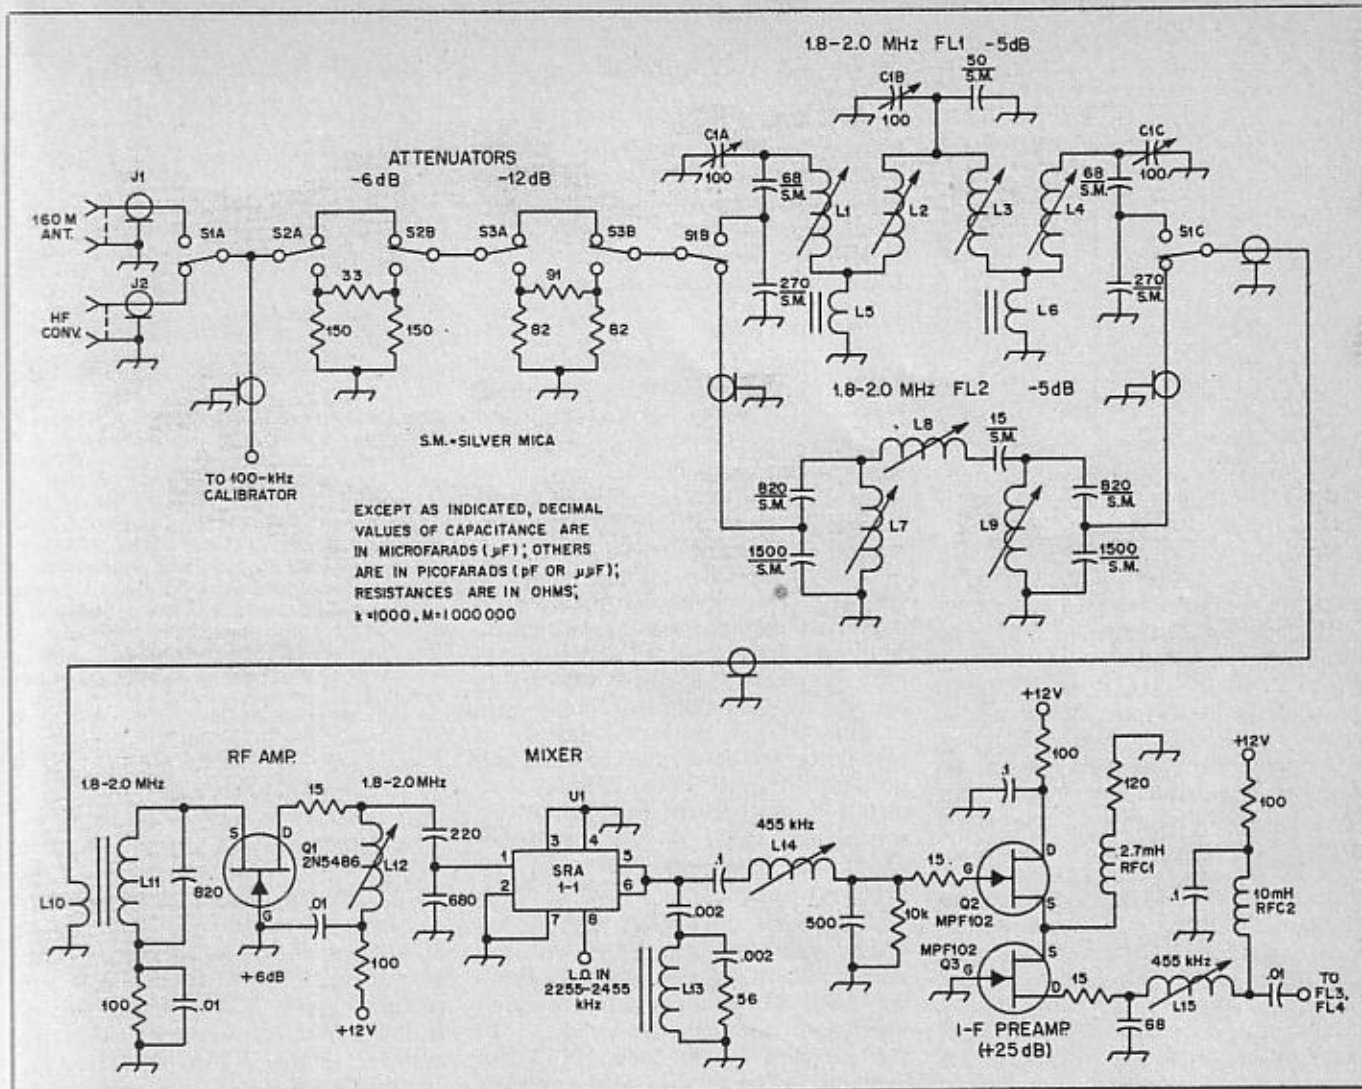

Fig. 1 — Schematic diagram of the receiver front end. Fixed-value capacitors are disk ceramic unless otherwise noted. Resistors
**Dial calibration.** Calibrate the tuning dial *after* the tuning range has been set and any backlash has been ironed out. In the model shown in Fig. 1, calibration of the 10- and 18-MHz TUNING scales differs by the width of a dial marking. The left edge of each mark is used during 18-MHz tuning (18 MHz L); the right edge is used during 10-MHz reception (10 MHz R). Calibration of the full TUNING capacitor rotation (360°; 180° for each band) would make this unnecessary, but one band would tune "backward" relative to the other.
Fig. 1 shows the rf amplifier, mixer, and post-mixer amplifier. What may seem like excessive elaboration in design is a matter of personal whim, but the features are useful, nevertheless. For example, the two front-end attenuators aren't essential to good performance, but are useful in making accurate measurements (6, 12 or 18 dB) of signal levels during on-the-air experiments with other stations (antennas, amplifiers and such). Also, FL2, a fixed-tuned 1.8- to 2-MHz band pass filter, need not be included if the operator is willing to re-peak the three-pole tracking filter (FL1) when tuning about in the band. The fixed-tuned filter is my preference when the down converters are in use.